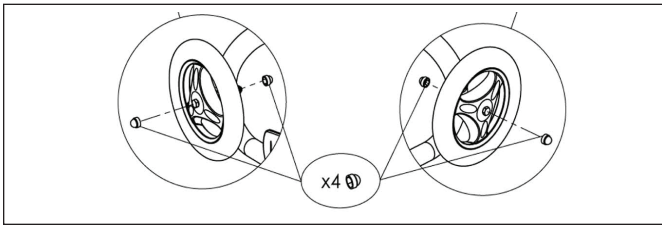

Figure 9. Attaching Wheel Caps
- Place two (2) caps on the wheels as shown in Figure 9.